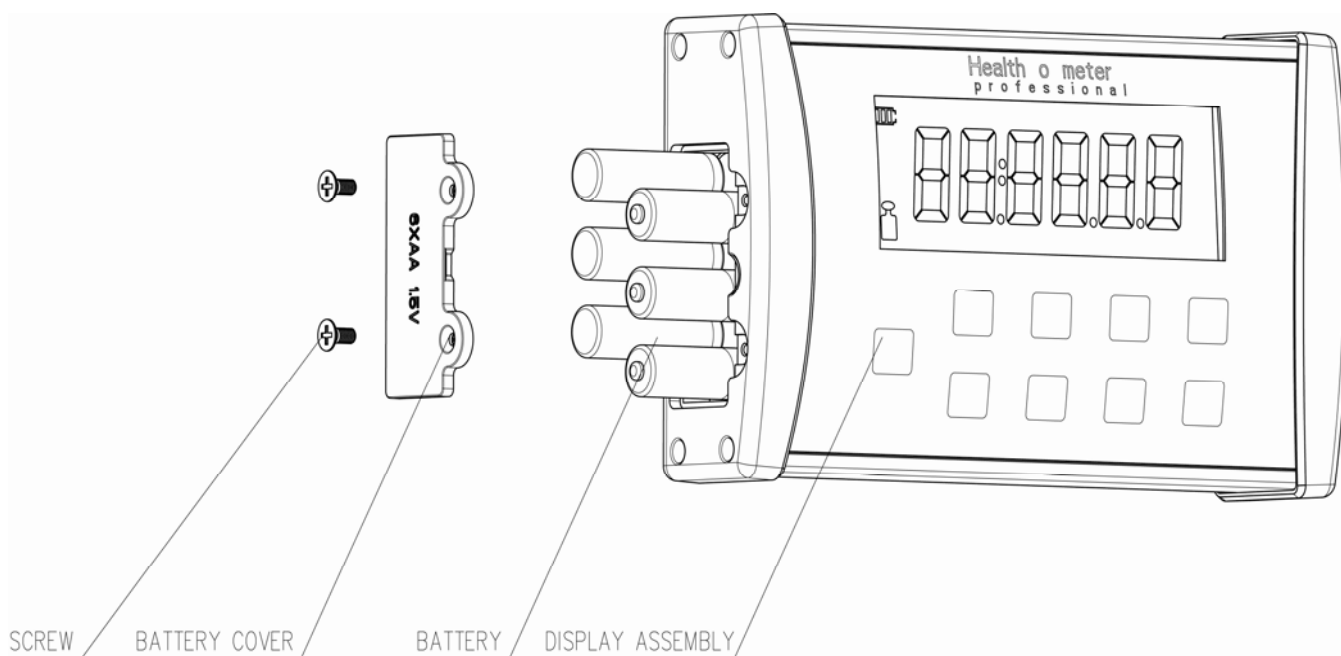

Figure 11
2. Place batteries into the display head (see Figure 11).
2. Remove the battery cover on the side of the display head by unscrewing the (2) battery cover screws (see Figure 11).